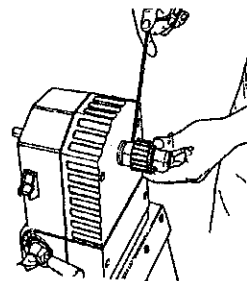

Fig.H-16
3. Install the drill chuck on the outer shaft, as in Fig.H-16. Securely tighten the setscrew.